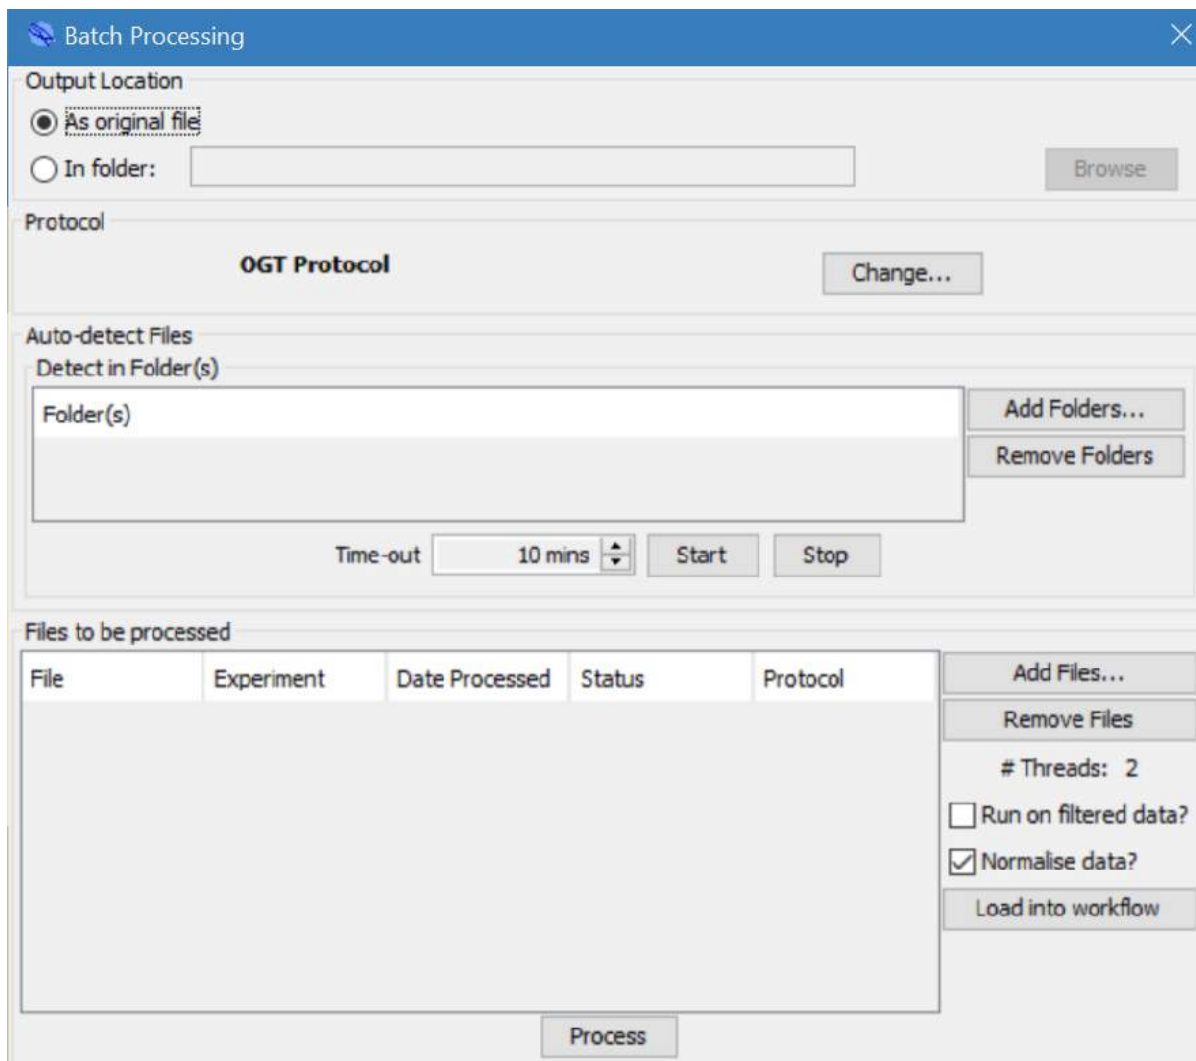

Figure 1: Batch Processing window.
2. Select **Tools -> Batch Processing** to open the **Batch Processing** window, as seen in Figure 1.
The **Run on filtered data?** and **Normalise data?** tick boxes towards the lower right of the **Batch Processing** window (Figure 1) cannot be edited in this window. The **Run on filtered data?** box is checked if the **Apply probe filters during Aberration Detection?** option in the **Probe Filtering** tab in the **Options** window has been selected. If this option is not selected, the filters will just remove probes from the view rather than from the results. The **Normalise data?** box is checked if the **Automatically normalise during protocol?** option in the **Normalisation** tab in the **Options** window has been selected.
If you want the system to automatically detect files from a folder, select the folder/s in the **Auto-detect Files** section of the **Batch Processing** window (See Figure 1).
Once a CytoSure Interpret Software **.cgh** file has been opened, there are three displays which can be used to view the data: **Genomic View**, **Table View** and **CNVs/SNPs**. These views can be opened by switching between the main tabs, as seen in Figure 1 (near centre).
Figure 1: Top left section of the CytoSure Interpret Software screen showing the first four main tabs: Genomic View, Table View, CNVs/SNPs and Database Management.